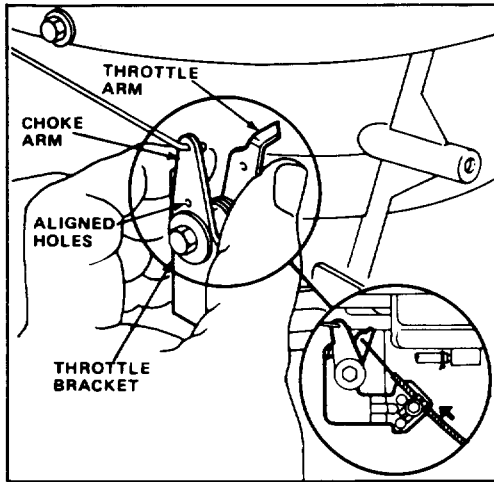

Figure 15
3. Loosen cable clamp screw until throttle cable slides (Fig. 15). Align holes in choke arm and throttle bracket. A small dia. pin may be inserted into aligned holes to hold adjustment. Push throttle cable until throttle arm makes contact with choke arm. Tighten cable clamp. Remove pin if used.